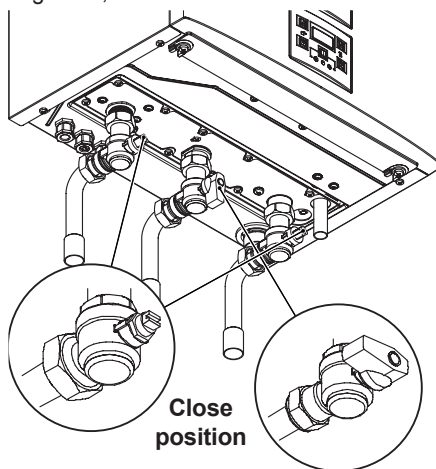

Fig. 2.15
- Shut off the gas supply cock and the valves for the water circuits fitted under the boiler Fig. 2.15;